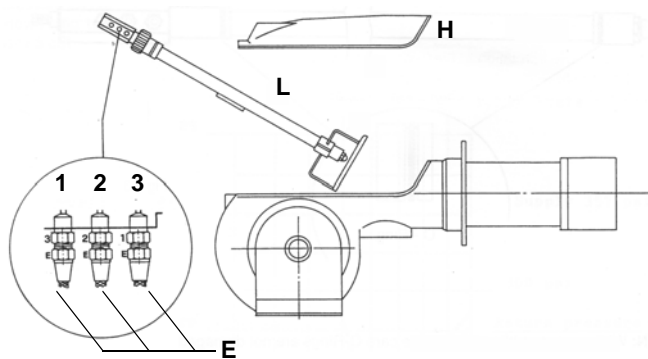
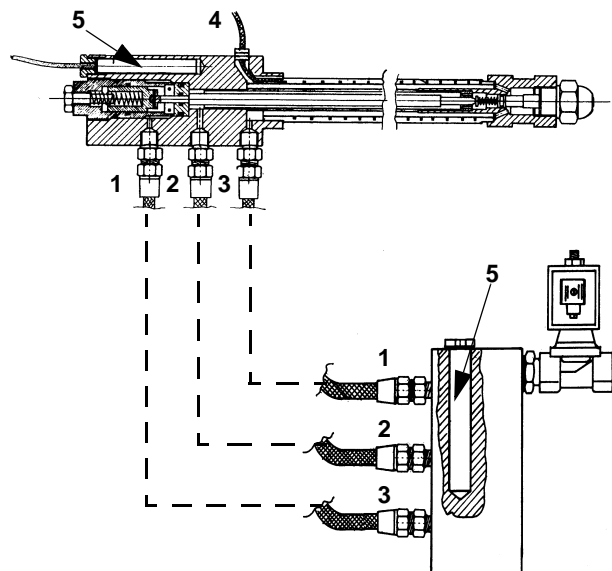

Fig. 21
Fig. 22
- Unscrew the oil connections E (Fig. 21) connecting the flexible pipes to the lance L and remove the whole assembly as shown in Fig. 21-Fig. 22.